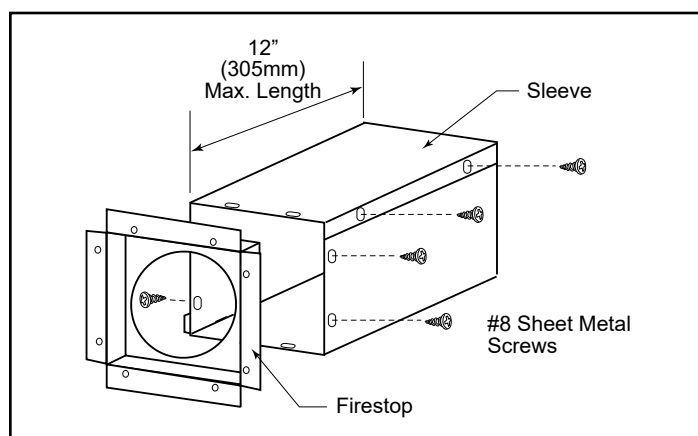

Figure 3.22 - Assemble the wall sleeve and firestop.
2. Measure the wall thickness and cut the zero clearance sleeve sections to proper length (MAXIMUM 12"). Assemble the sleeve with the #8 sheet metal screws supplied. Attach the firestop plate to the sleeve end with the holes, Figure 3.22. **NOTE:** The zero clearance sleeve is required in combustible walls only.
3. Install the Wall Firestop/Sleeve assembly into the wall cutout and fasten the firestop to the wall cutout framing members, Figure 3.22.
1. For multi-story vertical installations, a ceiling firestop is required at the second floor, and any subsequent floors, Figure 3.22. Cut and frame a 9" x 9" (229 mm x 229 mm) square opening for installation of the ceiling firestop.